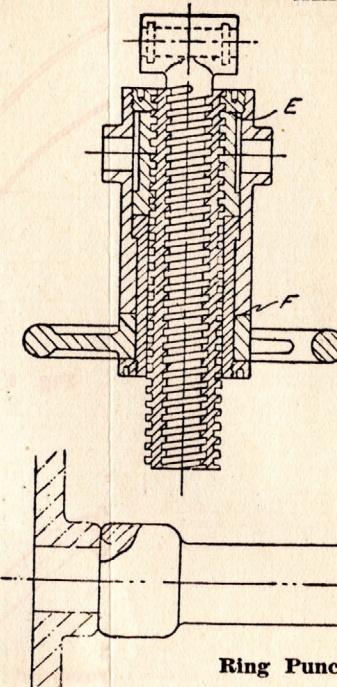

Fig. 2
**ELEVATING GEAR:**— End play of the Elevating Nut can be taken up by inserting at "E" (See Fig. 2) one or more of the packing washers provided, but steps should first be taken to ensure that the Tumbler Nut is screwed home.
When the axis pin holes in the Tumbler trunnions are worn, the trunnions can be swaged inwards by means of Ring Punch (B). When there is an appreciable amount of end play between the Handwheel and the Tumbler, and it is not possible to further tighten the Handwheel Nut, the play can be taken up, either by prolonging the screw thread on the Handwheel Bush, by filling, so allowing the Handwheel Nut to be screwed further on, or by inserting a suitable washer between the Handwheel and the Tumbler at "F" (See Fig. 2.).